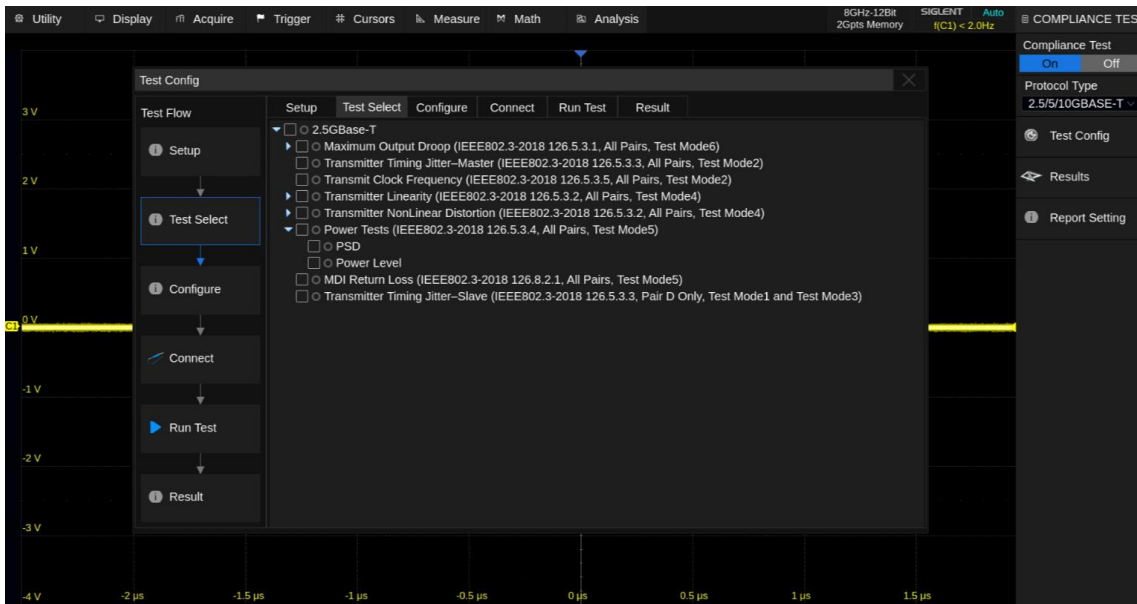

Figure 4-3 Test Item Selection Window
- **Test Select:** Select the items to be tested in this column, as shown in Figure 4-3